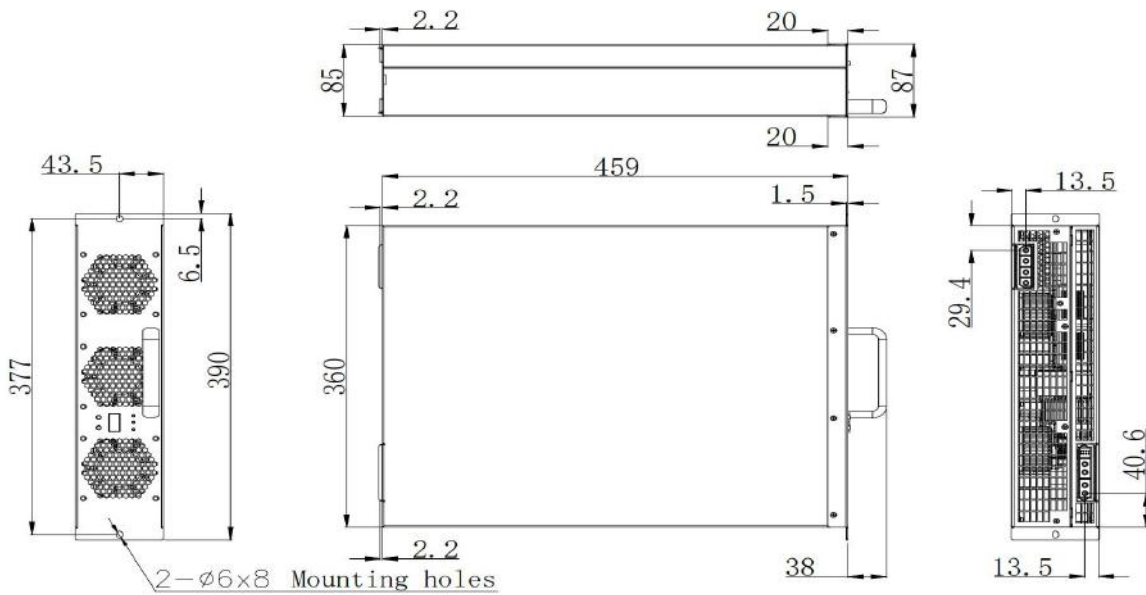

Figure 2-6 Module Dimensions (mm)
2.2.1 The dimension of MXR100030-DC is shown in figure 2-6.